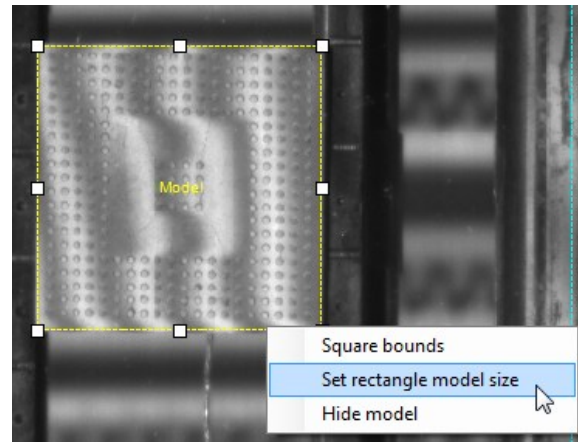

Figure 2.54 Set Model Size
4. Size the yellow 'Model' ROI so that it exactly contains one of the parts. Right click on the model ROI and select 'Set rectangle model size' (**Figure 2.54**).
6. Right click on the camera window and click Acquire (**Figure 2.54**).